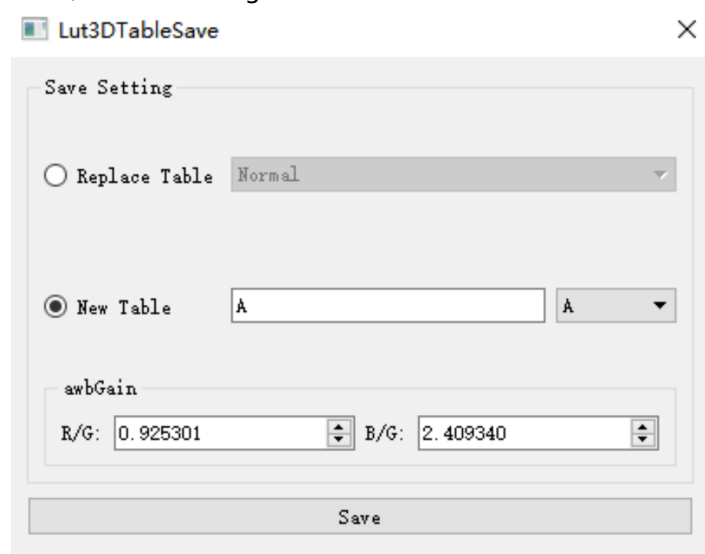

Figure 2-6-4
**Save IQ File:** Click Save IQ File, user can choose to overwrite an existing table in the IQ file or create a new table, as shown in Figure 2-6-4.